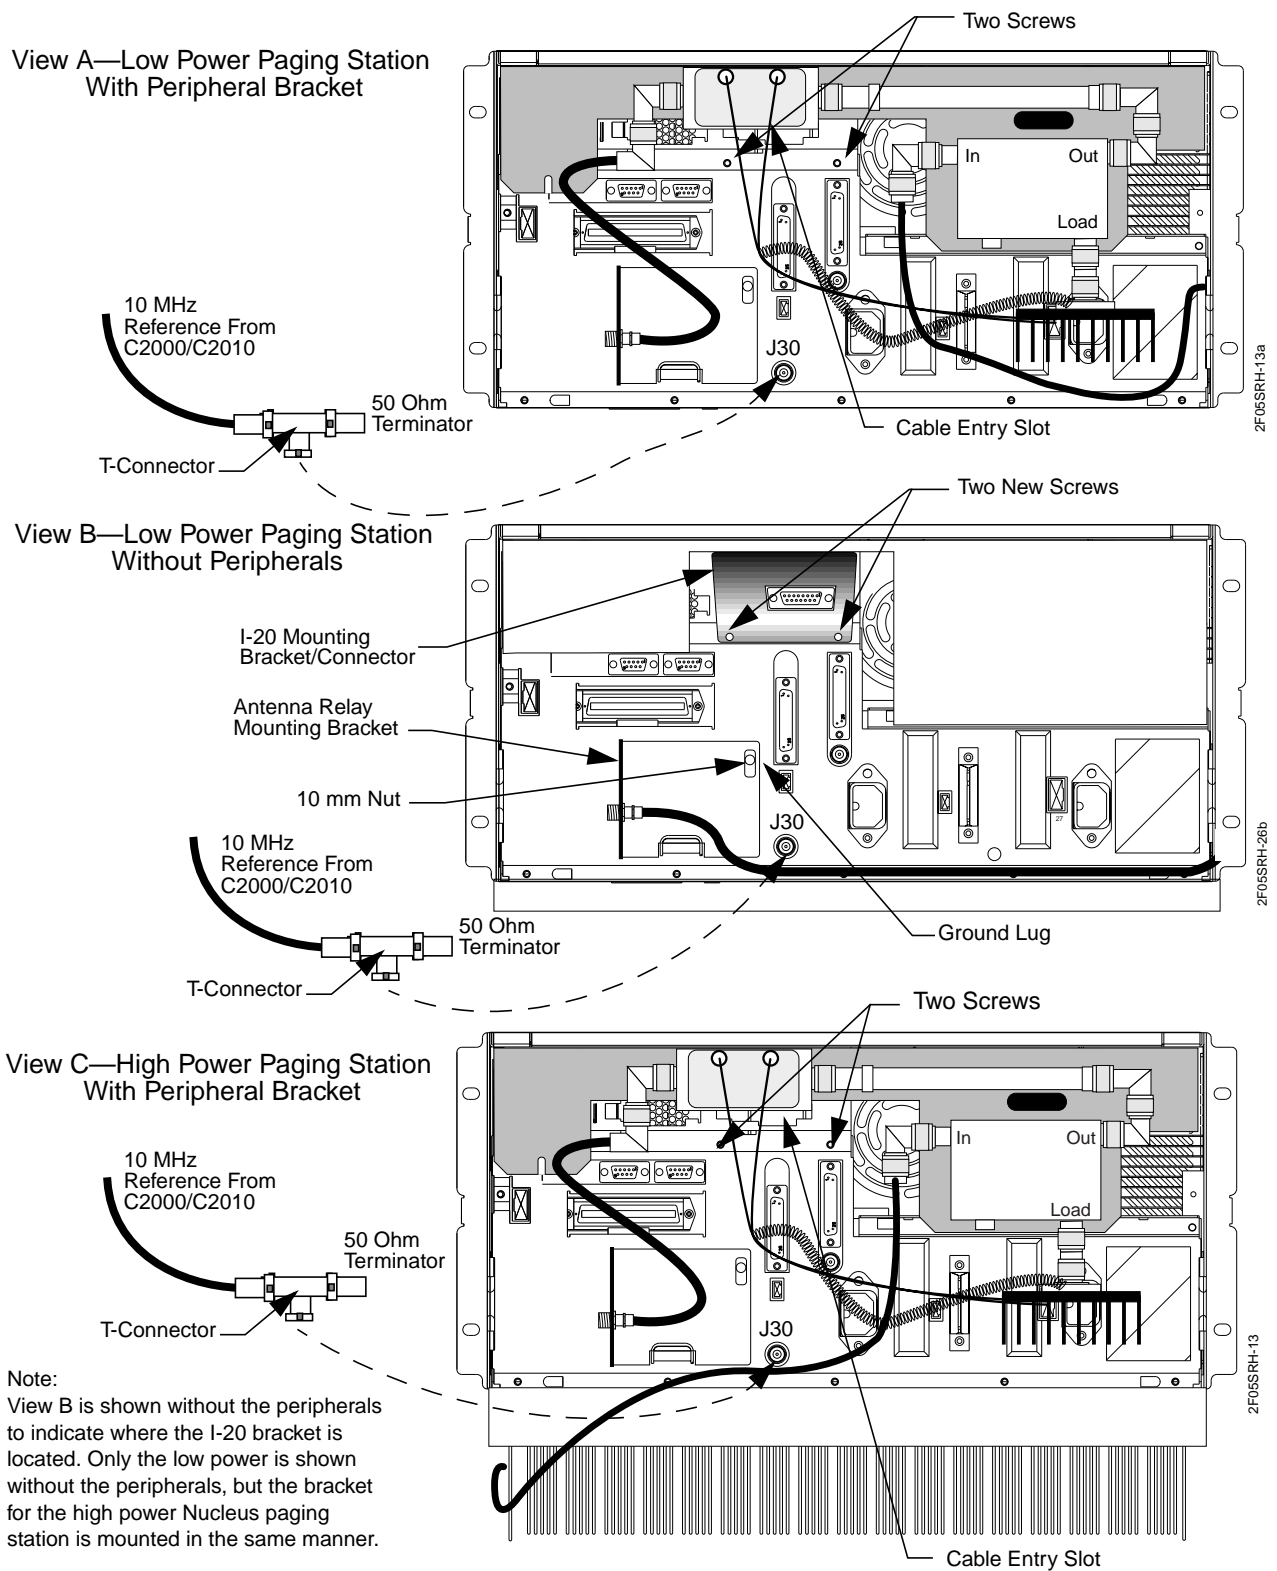

Figure 4: Nucleus Paging Station (Rear View)
6. Using a 10 mm nut driver or an adjustable wrench, remove the nut securing the ground cable to the ground lug on the antenna relay mounting bracket (see Figure 4).
7. Using a 10 mm nut driver or an adjustable wrench, remove the nut securing the antenna relay mounting bracket to the chassis (see Figure 4).
9. Place the antenna mounting bracket in position on the backplane and secure in place with the 10 mm nut removed earlier (see Figure 4).
10. Place the ground cable connector in position on the ground lug and secure in place with the 10 mm nut removed earlier (see Figure 4).
1. At the rear of the paging station, remove the two screws located below the cable entry slot using a TORX driver with a T15 TORX bit (see Figure 4). Discard the two screws.
1. At the rear of the paging station, connect the I-20 BSC interface cable (15-pin connector), part number 3086453G02 (a component of PTKN1003A) to the SCM I-20 connector (see Figure 4).
3. Connect the center connector of the T-Connector with the 50 ohm terminator to J30 on the backplane (see Figure 4).
4. Connect the 10 MHz reference cable to the open end of the T-Connector on the rear of the paging station (see Figure 4).